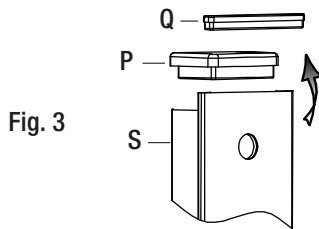

Fig. 3
- Remove the top cover (P) and the stainless steel cover (Q) from the shower column (S), see Fig. 3.